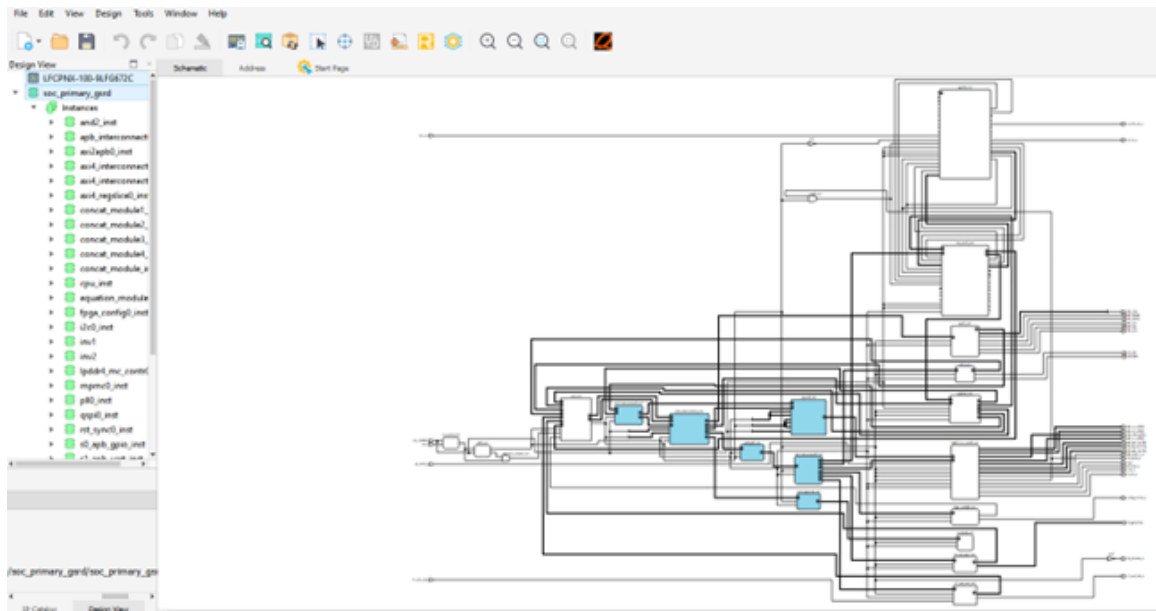

Figure 8.40. Propel Builder SoC Project
2. The Primary GHRD SoC opens as shown in Figure 8.40.